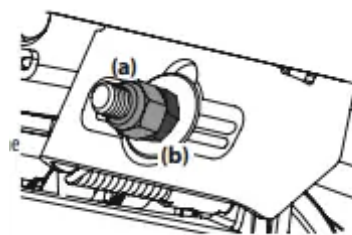

Figure 36
5. To raise the front of the deck, remove the end cap, loosen the outer jam nut (a) then tighten (thread inward) the inner nut (b) against the front hanger bracket. See Figure 36. When proper adjustment is achieved, re-tighten the outer jam nut (a) and replace the end cap.
6. To lower the front of the deck, remove the end cap, loosen the outer jam nut (a) then loosen (thread outward) the inner nut (b), away from the front hanger bracket. See Figure 36. When proper adjustment is achieved, re-tighten the outer jam nut (a) to 57 ft-lbs. (77.28 N-m) and replace the end